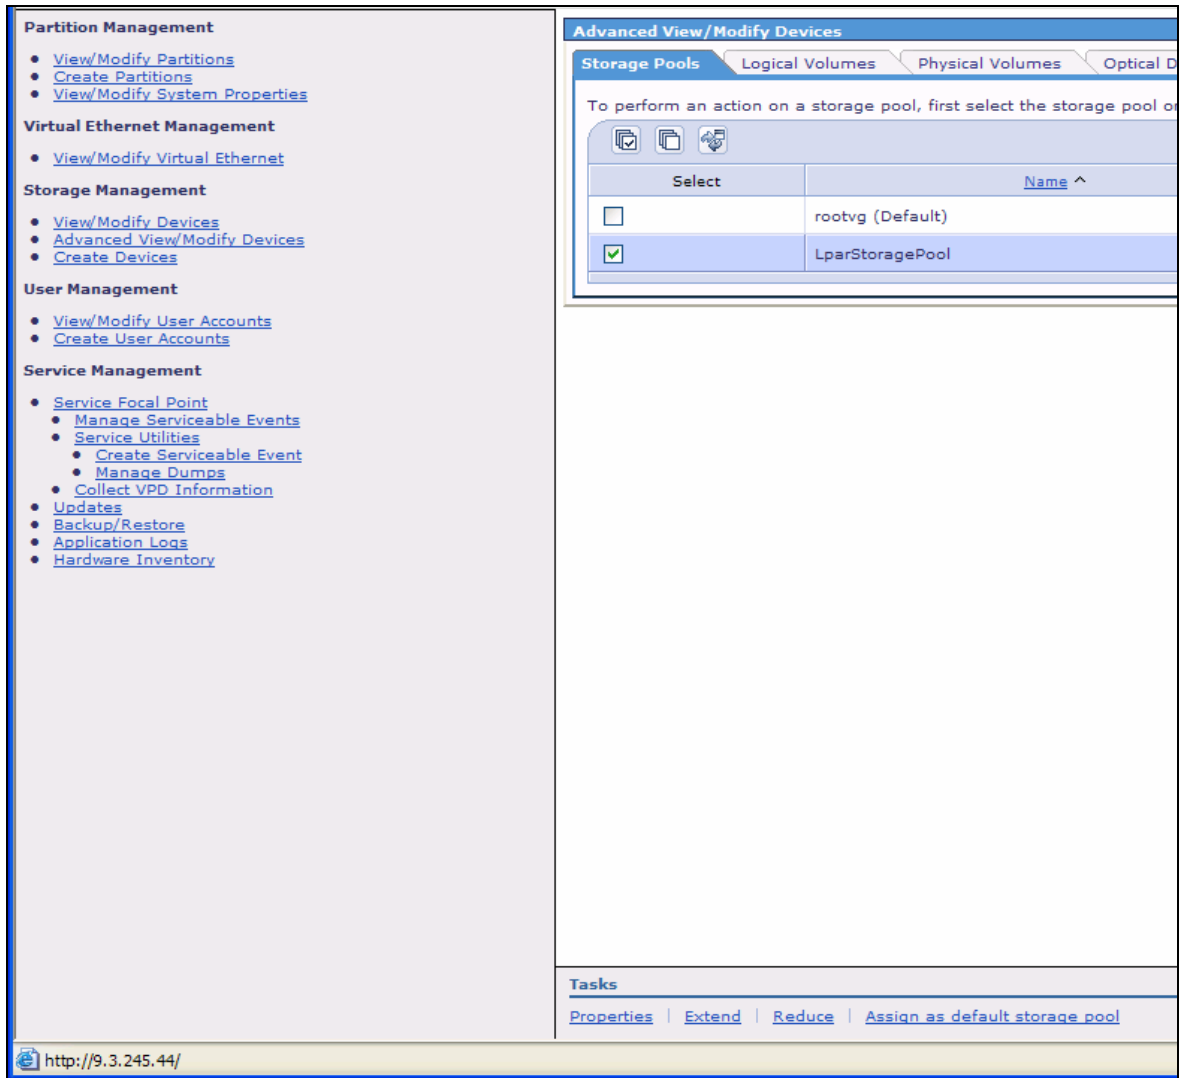

Figure 42. Assigning a default storage pool
- From the left navigation pane, click **Advanced View/Modify Device**. Select the LparStoragePool item from the storage pool list. Then click **Assign as default storage pool** at the bottom of the panel (see Figure 42).